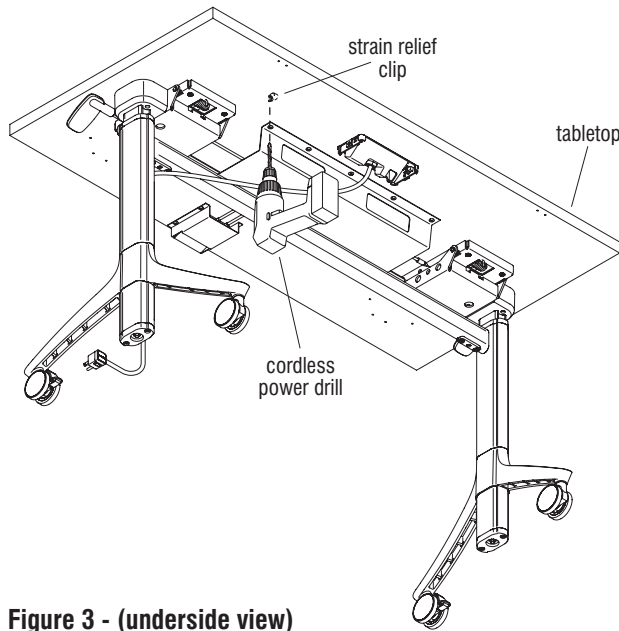

Figure 3 - (underside view)
1. Locate strain relief clip and position it at the desired locations. Using the clip as a template, mark the desired mounting hole locations, then move the clips away (Figure 3).
2. Carefully bore a $\frac{1}{8}$ " diameter pilot hole at the center of the marked location, underneath the tabletop using a cordless power drill. Take care to not drill too deep, piercing the tabletop (Figure 3).